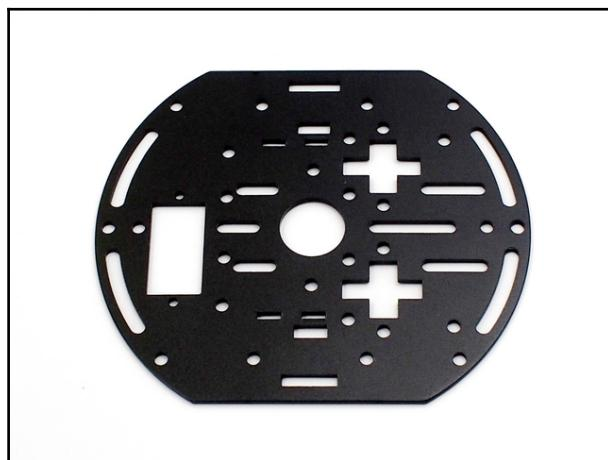

Figure 2.6: A chassis layer. Image courtesy of Adafruit Industries (<https://www.adafruit.com>); Image credits—John Park
1. Take one of the chassis layers. The two layers are identical. Align the chassis layer on your workbench (*Figure 2.6*). The rectangular cut should be on the left side: